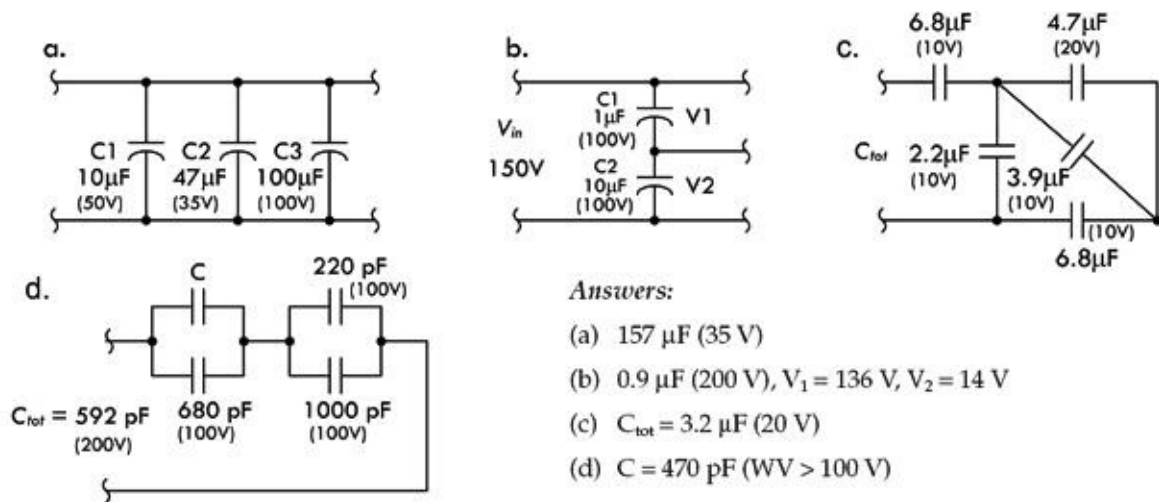

FIGURE 2.105
Example: (a) Find the total capacitance and maximum working voltage (WV) for the capacitor in the parallel network. (b) Find the total capacitance, WV, V_1 , and V_2 . (c) Find the total capacitance and WV for the network of capacitors. (d) Find the value of C that gives a total capacitance of 592 pF with a total WV of 200 V . Individual capacitor WV values are in parentheses. Refer to Fig. 2.105.